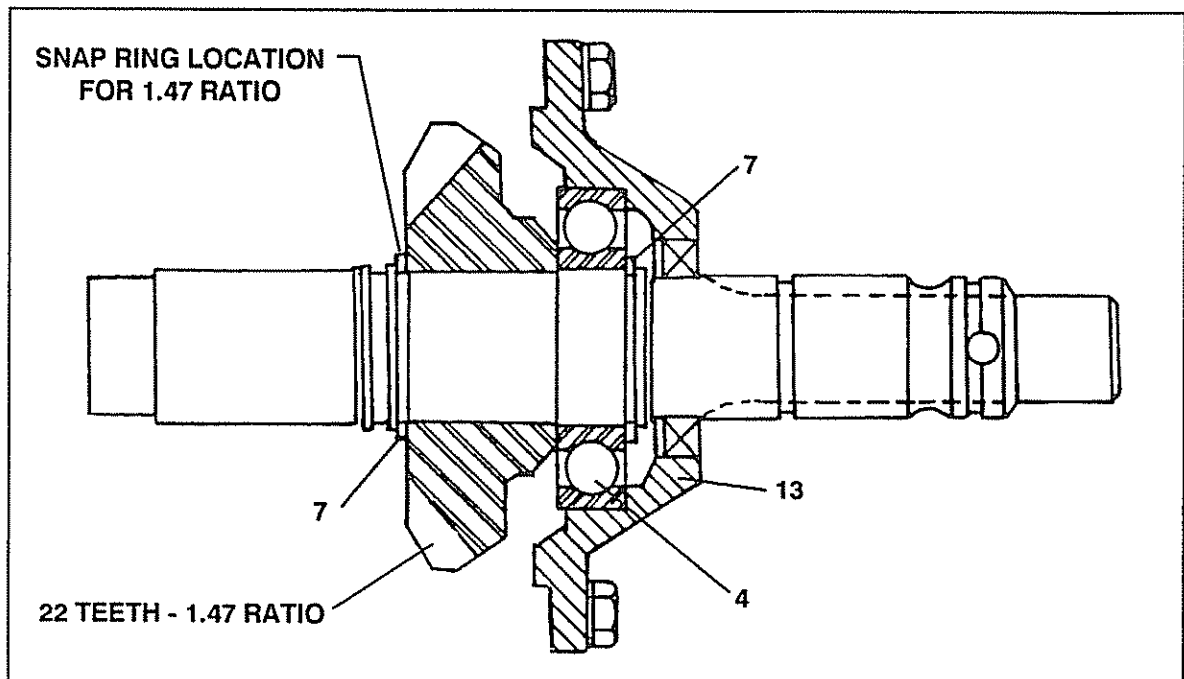

FIGURE 23
1. Input shaft assembly Fig. 23
INPUT SHAFT (FIGURE 23) DISASSEMBLY AND ASSEMBLY